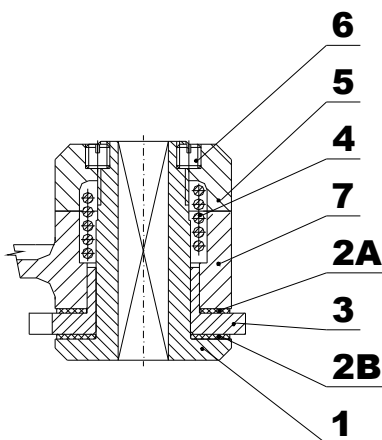

Fig. 4
11.2.1 Brake disassembly (fig. 4)
11.2.2 Brake assembly and adjusting (figures 4 and 5)